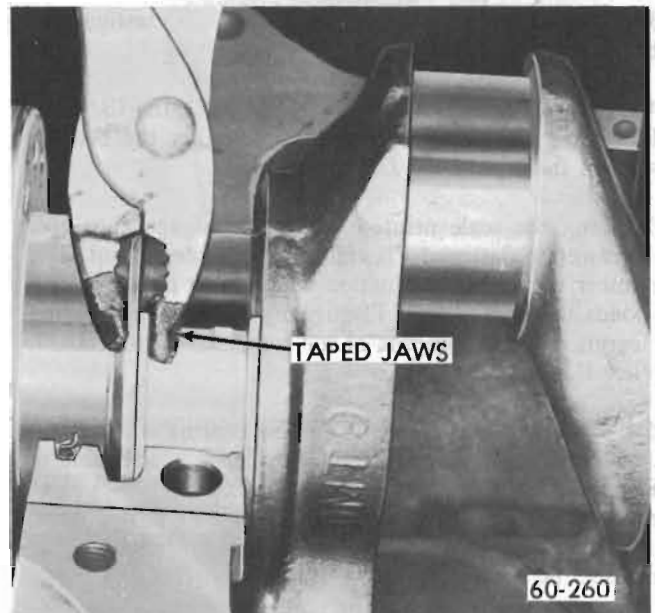

Figure 60-26 - Rear Main Bearing Replacement
b. Use a pair of pliers (with taped jaws) to hold the bearing thrust surface to the oil slinger and rotate the crankshaft to remove bearing. See Figure 60-26.